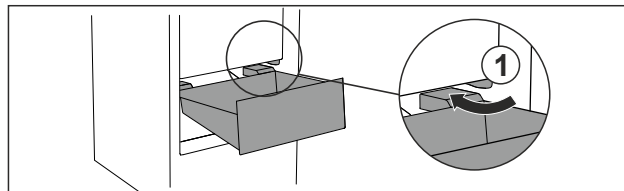

Fig. 28
- ▶ Guide drawer in at an angle around the stoppers Fig. 28 (1).